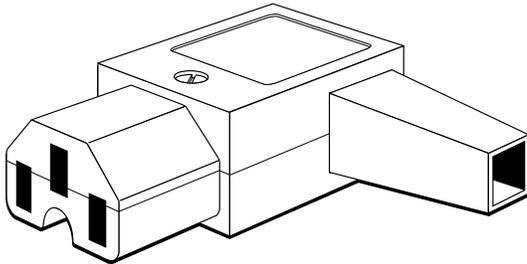

Figure 2-1. AC Power Connector.
- A three-position power connector (supplied, see figure 2-1)